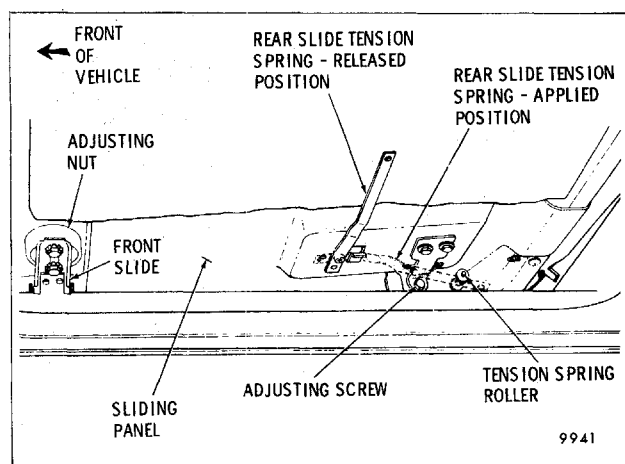

Fig. 8-110-Rear Slide Tension Spring - C Styles
8. Disengage rear slide tension spring from each rear slide assembly and pivot the springs inboard (Fig. 8-110).